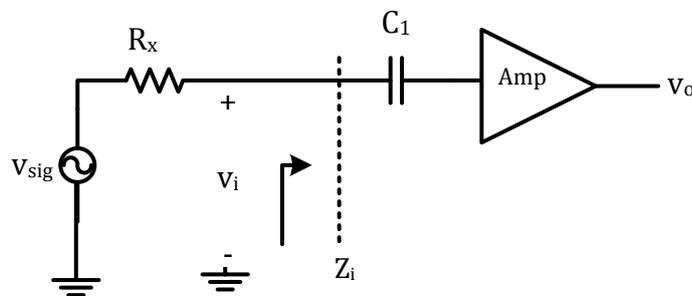

Figure E2.4
1. Connect an input measurement resistor, $R_x = 1\text{k}\Omega$ as shown in Figure E2.4.